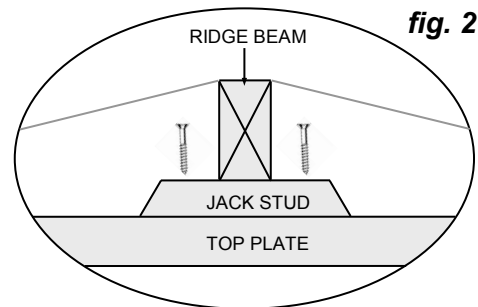

fig. 2
- Secure with 2 x 75mm screws through the top of the Jack Studs into the Timber Top Plate (**fig. 2**).